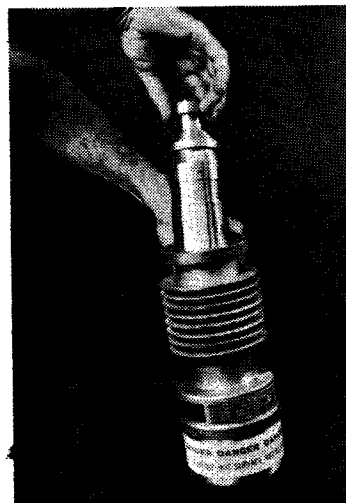

Figure 6-8. Lifting Jet Assembly Out of Diffusion Pump
- a. Remove the spring and carefully lift out the jet assembly (Figure 6-8). Wipe excess oil from jet.